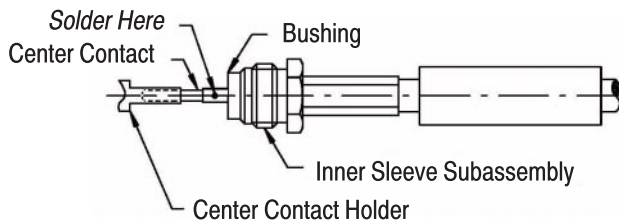

Figure 4
3. Place the center contact in the holder (Figure 4), heat the conductor of the cable with the large diameter of the contact resting firmly against the rear dielectric.